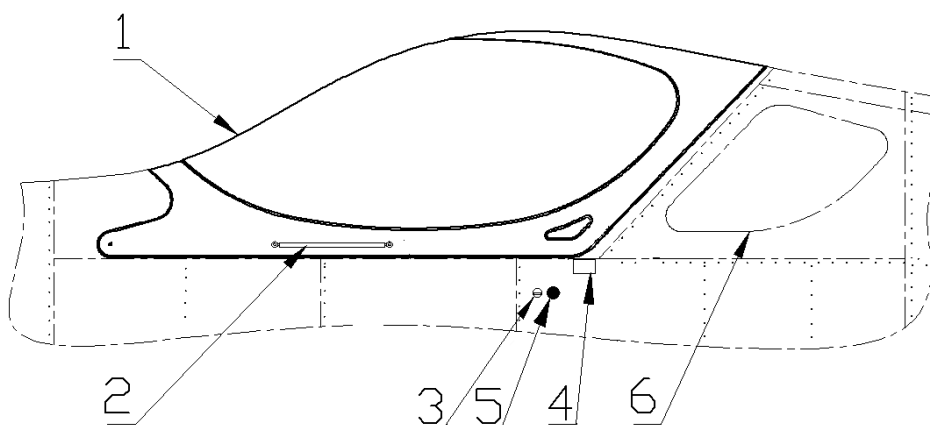

Fig. 3-2
The canopy (see Fig. 3-2) has a semi drop shape and enables access to the cockpit. The canopy consists of carbon frame on which the windscreen is attached. The canopy is suspended in two swivel hinges on front sides of the composite fixed frame. The canopy can be opened forward and is lightened by a gas strut each side which keep it in the opened position. The canopy lock is placed on the left side of fuselage below the cockpit frame. The locking levers are installed inside the fixed frame. The opening lever (in cockpit) is placed on a console between seats.
The rear fixed canopy windows (see Fig. 3-2) consists from two symmetrical windows (6) riveted and glued on the fuselage side skins.